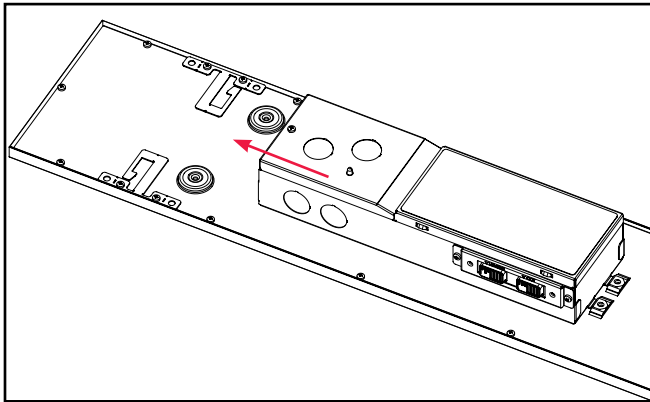

Figure 1.
3. Locate fixture junction box cover, remove screw and slide to remove it. (Figure 1.)